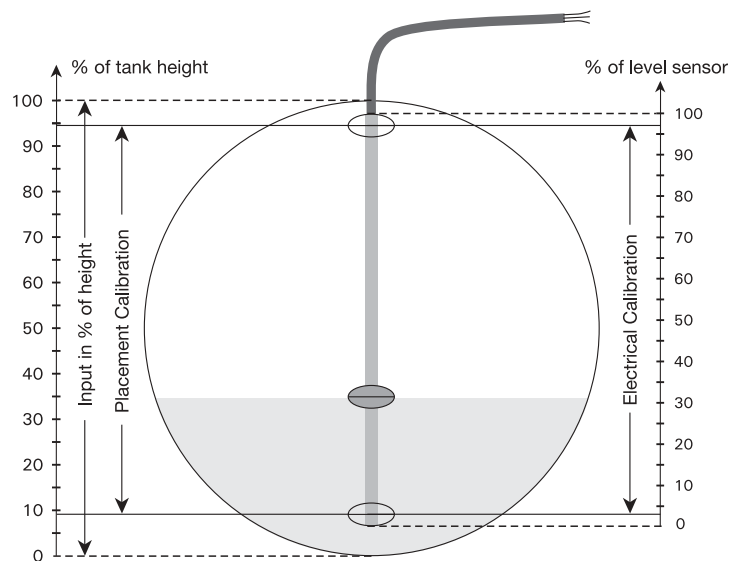

Figure 1, cross section of horizontal cylindrical tank
The following description of configuration with potentiometer input is based on figure 1. Please note that the PRelevel software only comes in an English-language version. Therefore the menu texts are represented here as they are seen on the screen. First choose the **[Input]** tab:
**[Electrical Calibration]** Enter the range to be detected by the connected potentiometer or let PRelevel measure the available range. The transmitter must be connected to the communications interface before the values can be measured. The values in figure 1 are Low = 3% og High = 97%.
The values in figure 1 are Low = 9% and High = 94%.
The values in figure 1 are Low = 0% and High = 100%.